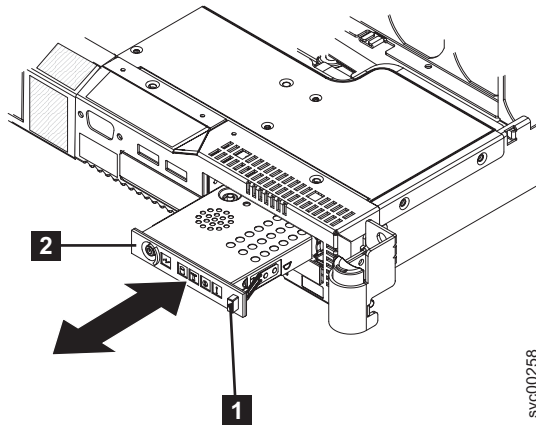

Figure 156. Releasing the operator-information panel
9. Press the release button (**1** in Figure 156 on page 172) on the front of the operator-information panel **2** and pull forward until it locks in place.